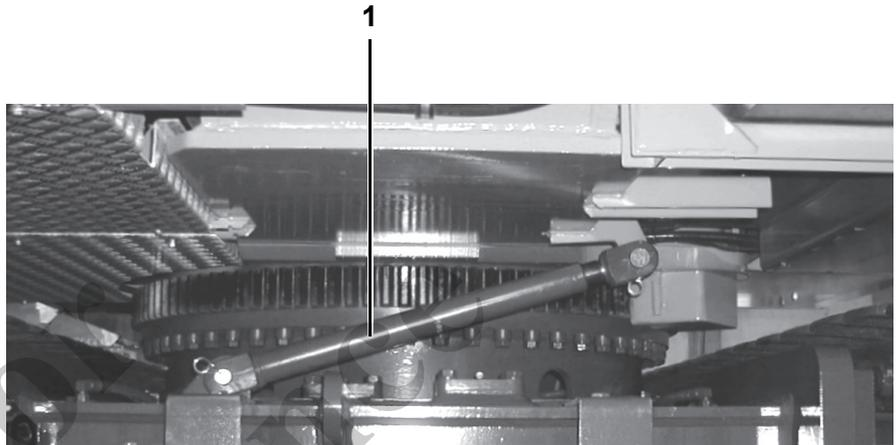

Fig. 191 Locking rod
| 3 | Bolt and secure the locking bar (1) in Fig. 191 to the undercarriage and the uppercarriage. |